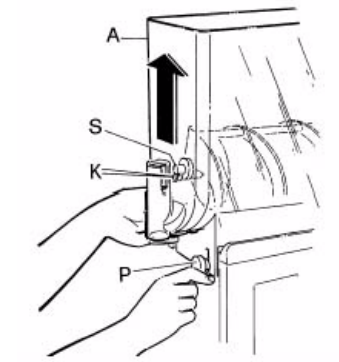

FIGURE 20
12. Secure the bowl (A) by keeping it lifted until the bolt (S) is aligned with its hole (K), then tightly screw on the knobs (P) without exerting excessive pressure to avoid cracking the bowl (see Figure 20).